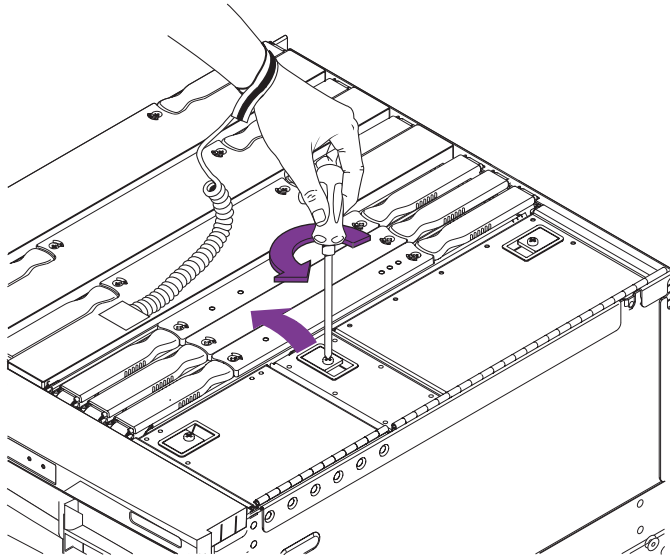

FIGURE 6-9 Opening the IB Fan Cover—Top View of System
- b. **Unlatch the cover and open it** (FIGURE 6-9).
- b. Unlatch the cover and open it (FIGURE 6-9).